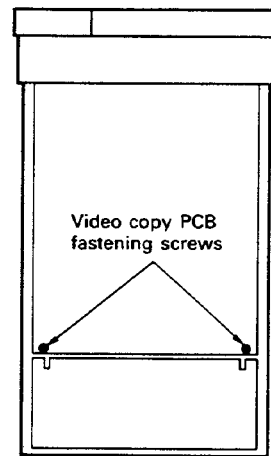

Fig. 2-4
2. To check the rear side of the video copy PCB, remove two screws fastening the PCB (Fig. 2-4), disconnect all the connectors from the PCB, and remove the PCB from the chassis.